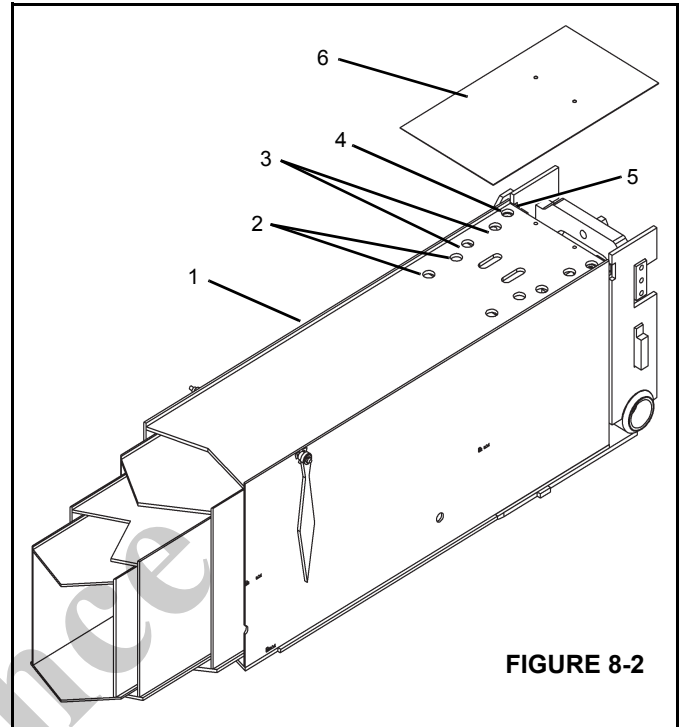

FIGURE 8-2
2. With the boom fully retracted, remove the access plate (6) located on the top rear of the 1st section (Figure 8-2).
3. Apply grease to the wear pads on the top of the 2nd section through the access holes (4) in the 1st section with a grease gun (Figure 8-2).
4. Extend the boom to line up the access holes on the 2nd section (3) with the wear pads on the 3rd section. Apply grease to the 3rd section wear pads with a grease gun.
5. Extend the boom to line up the access holes (2) on the 3rd section with the wear pads on the 4th section. Apply grease to the 4th section wear pads with a grease gun.